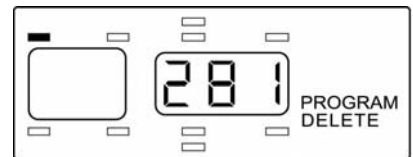

Figure 2-20
**NOTE: To skip this section and go directly to the Sensor Deletion mode just press the **P** button briefly 1 time. The display should look like Figure 2-20. Anytime during this mode you can escape out to the next program mode by pressing the **P** momentarily.**
**NOTE: To enter directly into this program mode you will need to press the **P** button for 5 seconds until the "PROGRAM" is displayed. Then press the **P** button again briefly 4 times to enter this mode (see Figure 2-20 for screen display).**
The monitor will display the available sensors to delete and the words PROGRAM and DELETE will be displayed on the screen (see Figure 2-20). If a sensor does not need to be deleted you can just press the **P** button to go into the final program mode. If a sensor will need to be deleted you will need to do the following steps: